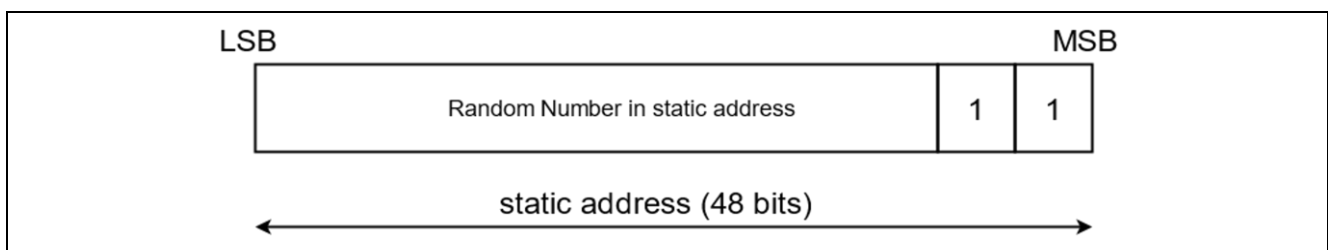

Figure 66. Static address format
Since BLE Protocol Stack does not check format of BD address written in each area (1)-(3), when setting static address, set value that matches the format shown in Figure 66.